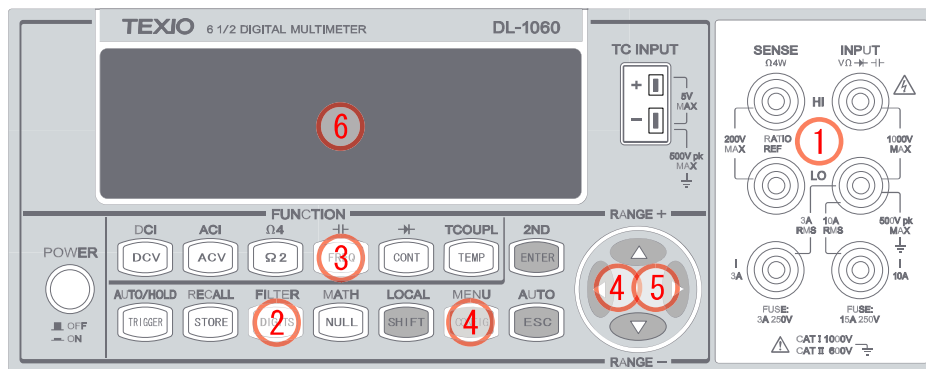

Figure 2-6
1. Connect the test leads to the terminals on the front panel as shown in **Figure 2-6**.